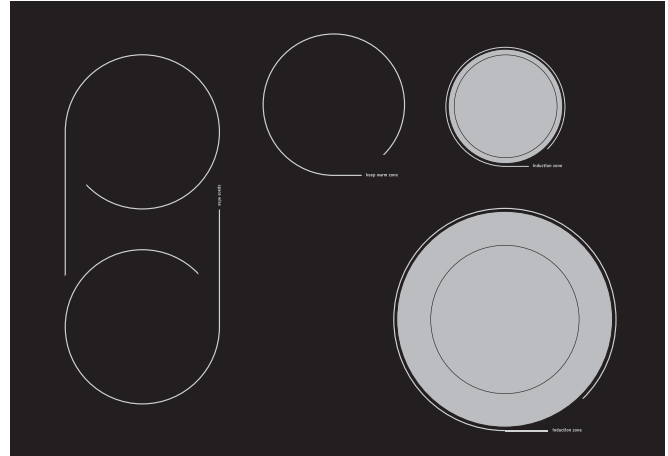
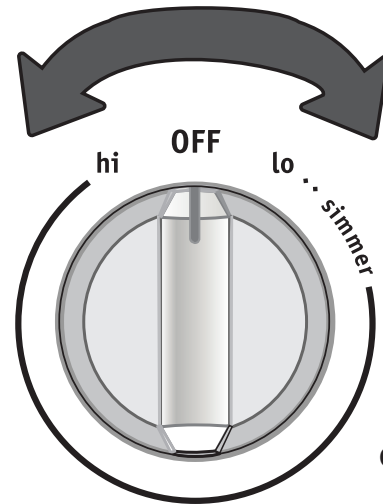

Figure 1
Figure 2
2. At the keep warmer zone controls position touch **▲** once to turn ON the power level for HI (Fig. 1) or **▼** to turn ON the power level for LO (Fig. 3).
3. Each touch **▲** or **▼** will increase or decrease the power levels. The keep warm zone has 5 power levels from HI (Fig. 1) through MED (Fig. 2) to LO (Fig. 3). The power level may be adjusted at any time while the keep warm zone is ON.